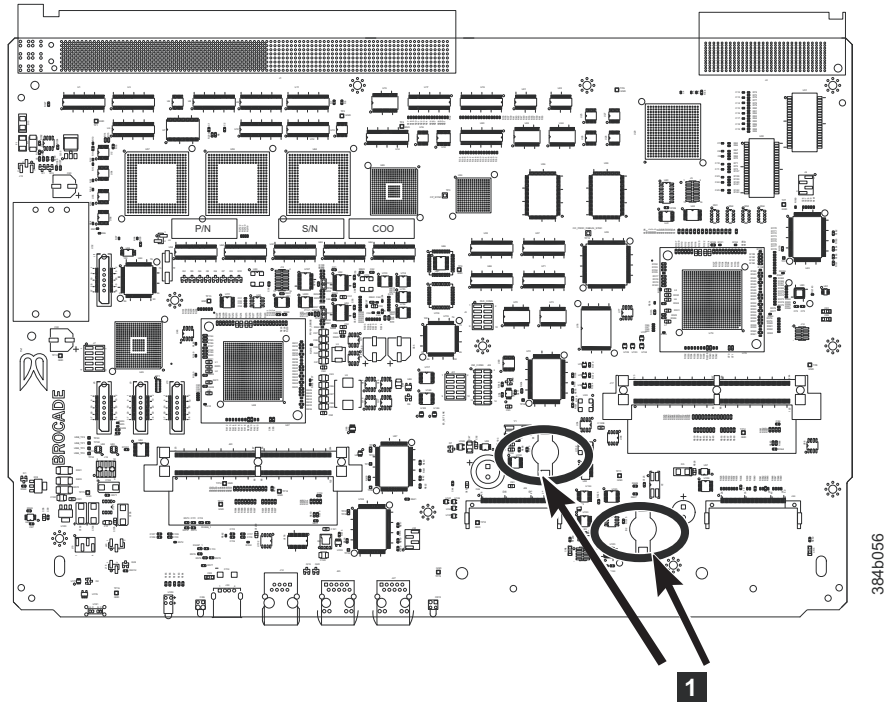

Figure 55. Battery locations on the CP8 blade
6. Go to the locations and remove the two BR1225 batteries from each of the PCBAs (see **1** in Figure 55 on page 127):